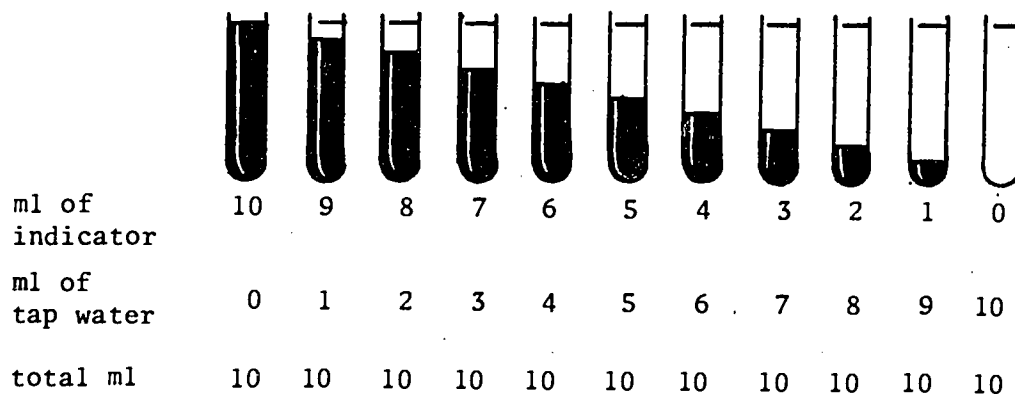

FIGURE 4: *Directions for preparing eleven concentrations of the indicator solution.*
In the remaining steps you will be measuring the % T of the 11 solutions shown in Figure 4 on the next page. The "indicator" referred to is the chromium potassium sulfate solution you prepared in Steps 5 through 8.
21. Repeat Steps 17 through 20 for each of the remaining concentrations shown in Figure 4.